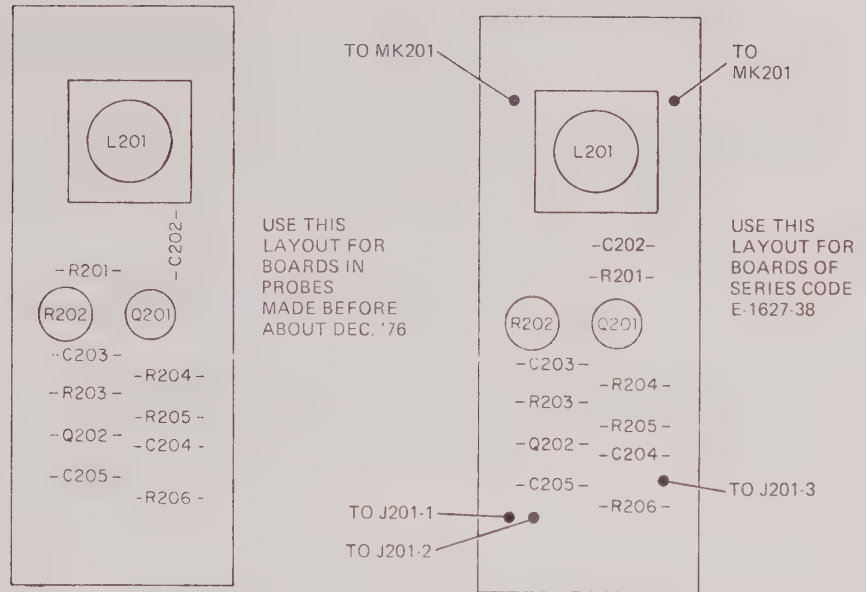

Figure 5-5. General Purpose Probe Circuit Board, Parts Location
- g. On 18020A circuit card, adjust L201 (figure 5-5) to obtain peak indication of AC voltmeter.